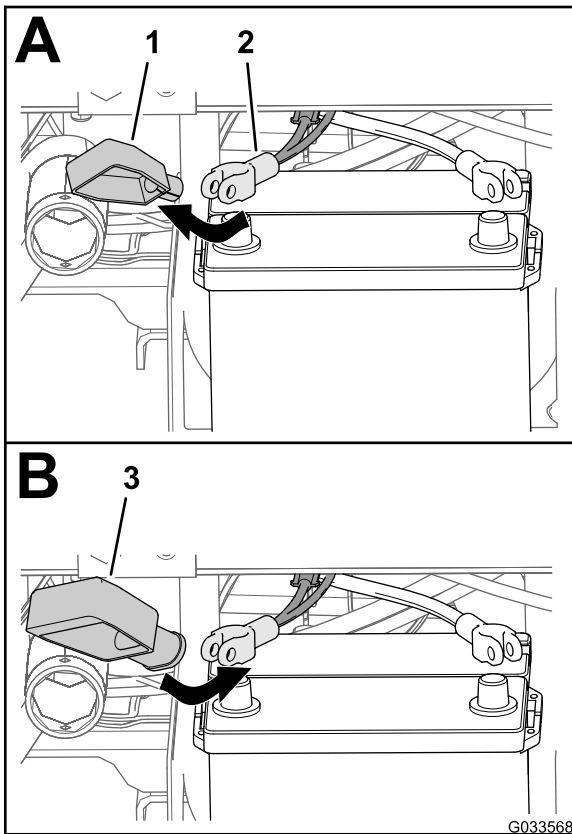

Figure 26
2. Remove the cover (narrow) from the positive battery cable (Figure 26).
3. Install the wide battery cover over the positive battery cable as shown in Figure 26.